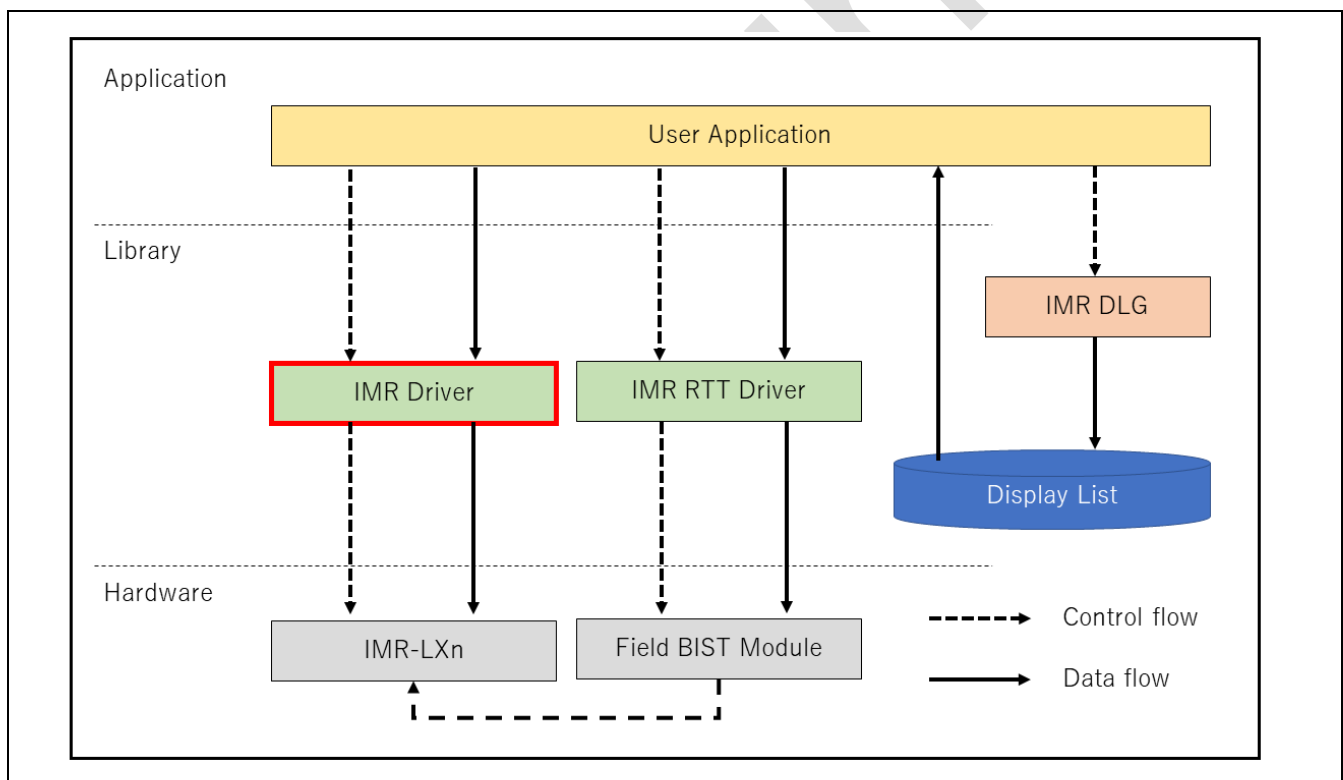

Figure 1-1 Entire structure of software to control IMR-LXn
**Figure 1-1** describes the entire structure of software to control IMR-LXn. The user application uses a library that consists of an "IMR driver".